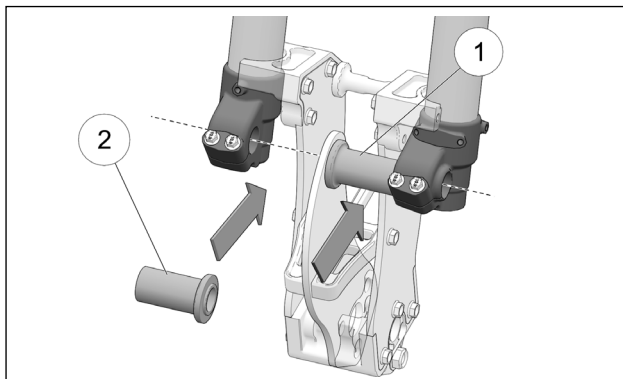

Figure 7
- Position left (1) and right (2) axle spacers on each side of the spindle's center carbon blade. See Figure 7.